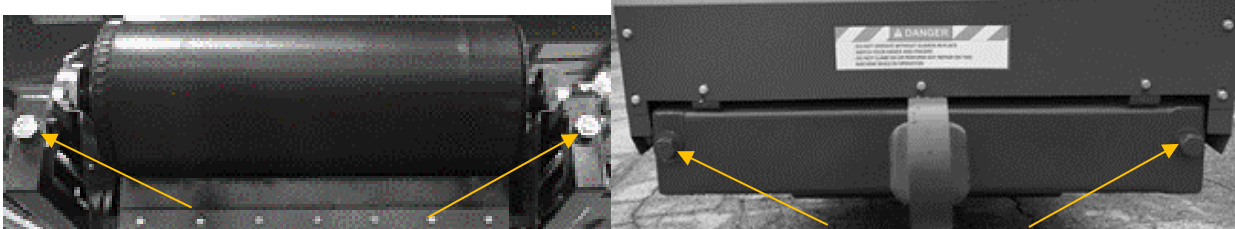

Figure 14: HEAD AND TAIL END VIEWS
2. Tensioning bolts are located at the Head and Tail end of the conveyor (FIG 14)